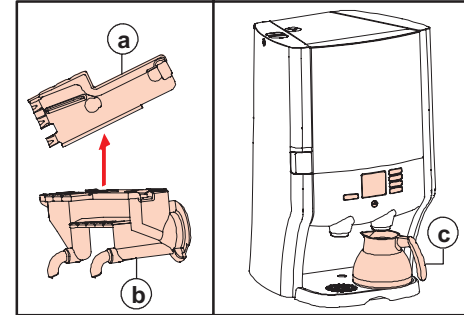

Fig. 40 Trough cover / Placing pot
10. Clean the trough. Remove the cover from the trough (fig. 40 a and b). The trough may be cleaned in a dishwasher.
14. Place a pot under the **right-hand** outlet (fig. 40 c).